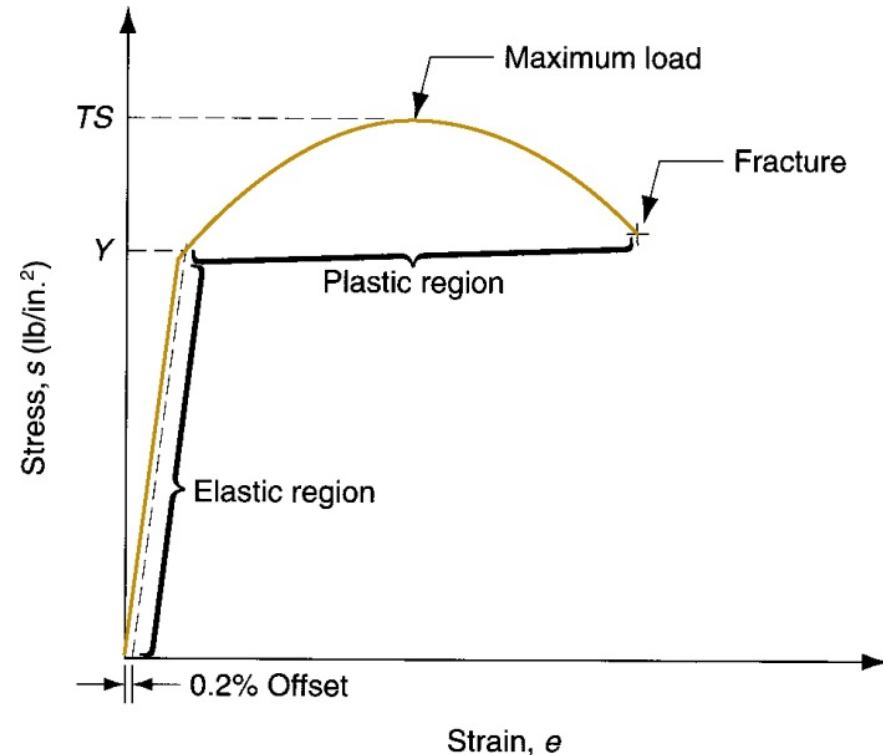

Fig. 4: a typical engineering stress-strain curve for a metallic specimen.
- Fig. 4 shows an engineering stress-strain curve for a metallic specimen.